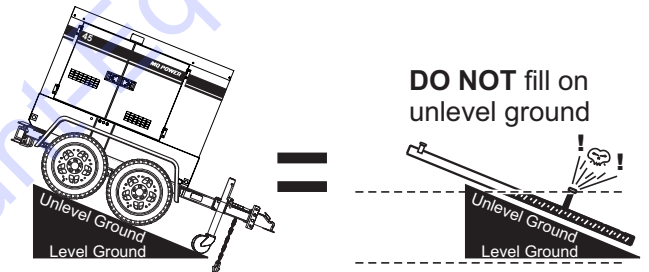

Figure 31. Only Fill on Level Ground
1. **Level Tanks** — Make sure fuel cells are level with the ground. Failure to do so will cause fuel to spill from the tank before reaching full capacity (Figure 31).